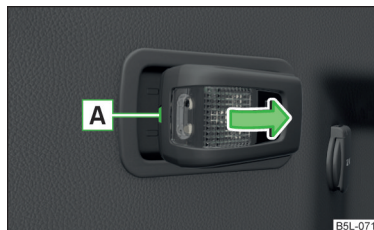

Fig. 184
- Take out the light in the direction of arrow » Fig. 184.